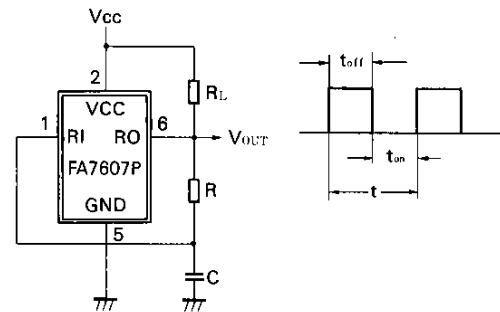

Fig. 5 Astable multivibrator circuit
Figure 5 shows how to create an astable multivibrator circuit with the FA7607P. The output transistor ON time, t_{on} , and OFF time, t_{off} , can be calculated by the formulas of (7) to (9).